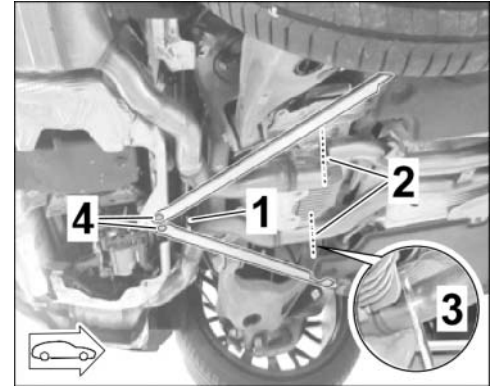

Figure 22
- 3.1.4 Cut rear silencer at the connection point for the front silencer (marking on underside) using pipe cutters or **body saw** (\Rightarrow Figure 22).